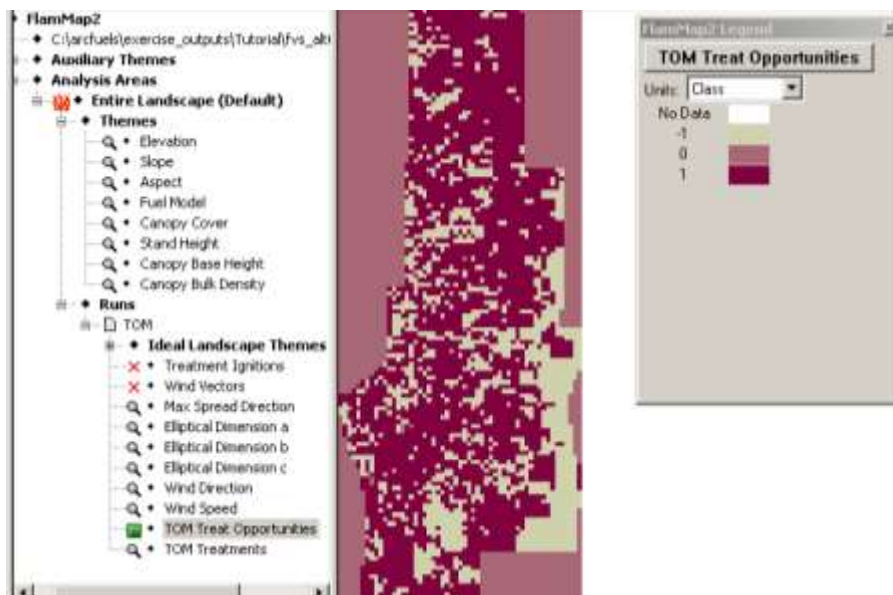

Figure 4-62—The TOM Treatment Opportunities output.
- 6) Under the Runs section, expand the TOM run in the tree pane. Display the TOM Treat Opportunities theme, and open the legend (fig. 4-62). The TOM Treat Opportunities theme compares the fire behavior for the two LCPs. If the value is 1, the rate of spread is less in the ideal landscape. If the value is -1, the rate of spread is greater in the ideal landscape. And areas with a zero value indicate no difference in the rate of spread between the LCPs. TOM will only select from the areas where the value is 1.